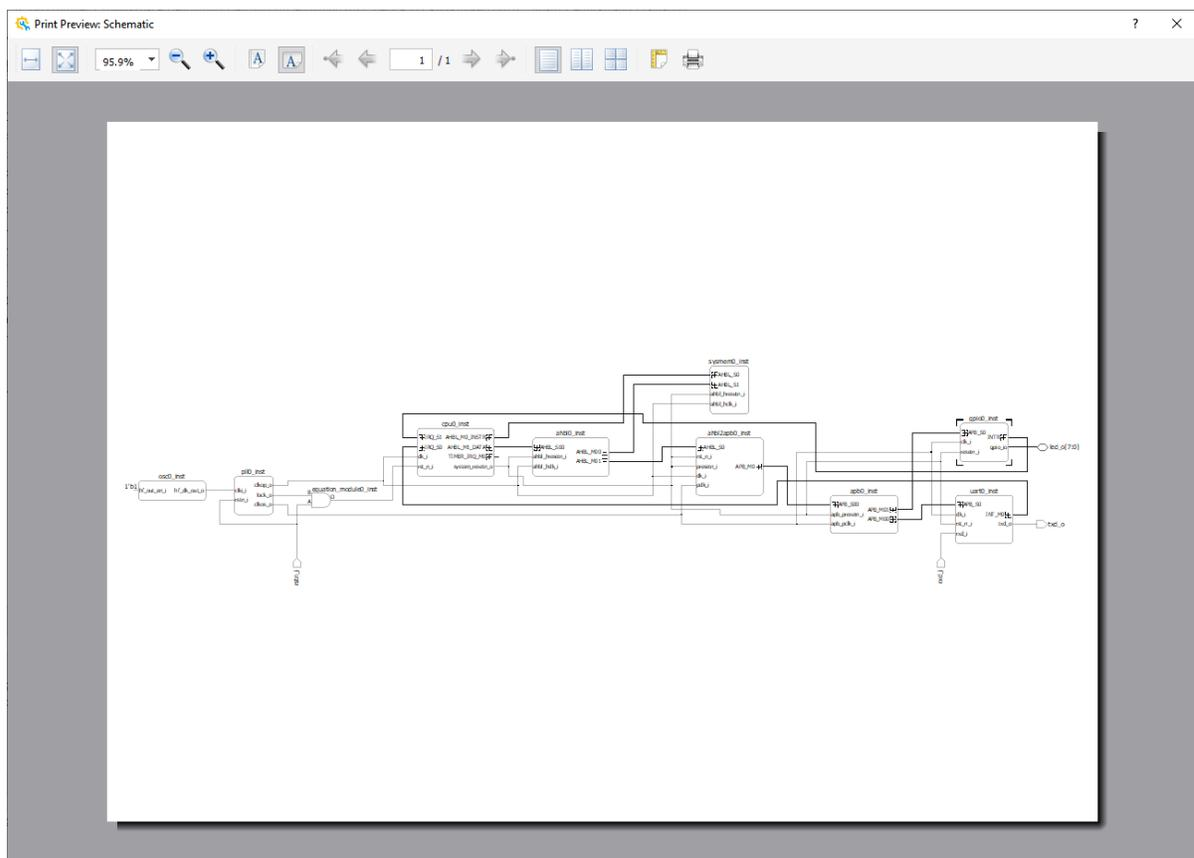

Figure 2.51. Print Preview
1. Choose **File > Print Preview**. The Print Preview window (Figure 2.51) opens.